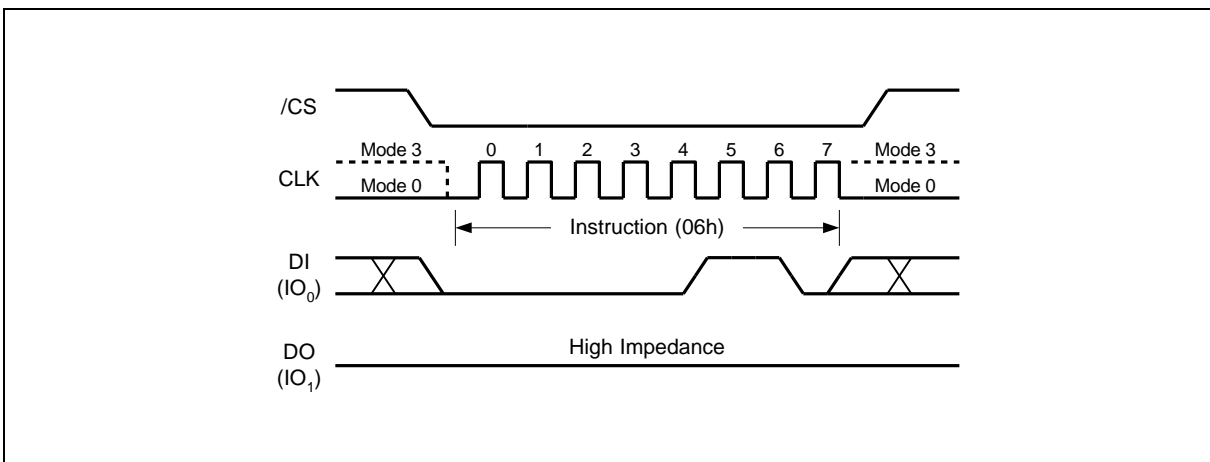

Figure 4. Write Enable Instruction Sequence Diagram
Instructions vary in length from a single byte to several bytes and may be followed by address bytes, data bytes, dummy bytes (don't care), and in some cases, a combination. Instructions are completed with the rising edge of edge /CS. Clock relative timing diagrams for each instruction are included in figures 4 through 34. All read instructions can be completed after any clocked bit. However, all instructions that Write, Program or Erase must complete on a byte boundary (/CS driven high after a full 8-bits have been clocked) otherwise the instruction will be ignored. This feature further protects the device from inadvertent writes. Additionally, while the memory is being programmed or erased, or when the Status Register is being written, all instructions except for Read Status Register will be ignored until the program or erase cycle has completed.
The Write Enable instruction (Figure 4) sets the Write Enable Latch (WEL) bit in the Status Register to a 1. The WEL bit must be set prior to every Page Program, Quad Page Program, Sector Erase, Block Erase, Chip Erase, Write Status Register and Erase/Program Security Registers instruction. The Write Enable instruction is entered by driving /CS low, shifting the instruction code "06h" into the Data Input (DI) pin on the rising edge of CLK, and then driving /CS high.